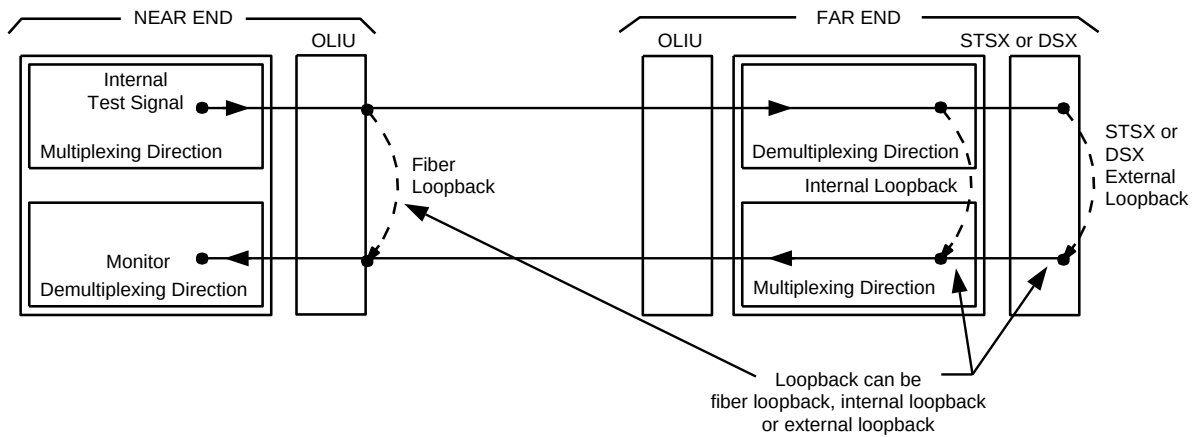

Figure 1. Transmission Test of DS1 Signal in MUX Direction
See Figures 1 and . If local tests are being performed, the fiber loopbacks at the near-end **OLIUs** must be in place. If end-to-end tests are being performed, do ONE of the following:
9. See Figures 1 and 2. At the near-end DSX-1 cross-connection or T1 interface associated with the DDM-2000 being tested, connect a patch cord from the **OUT** jack to the **IN** jack for the DS1 channel to be tested.